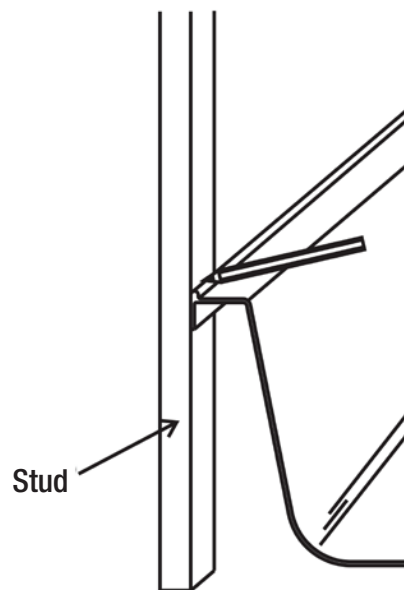

Fig. 2
4. Mark the height of the tub on the back and end studs as in Fig. 2, then remove tub.